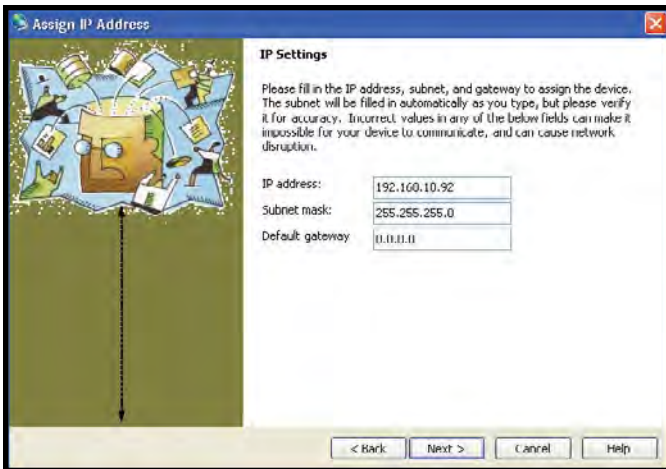

Figure 89. Assign IP Address, IP Settings window
- VIII. Enter the IP address and Subnet mask. The Default gateway is optional. Click “Next >” when complete (see Figure 89).